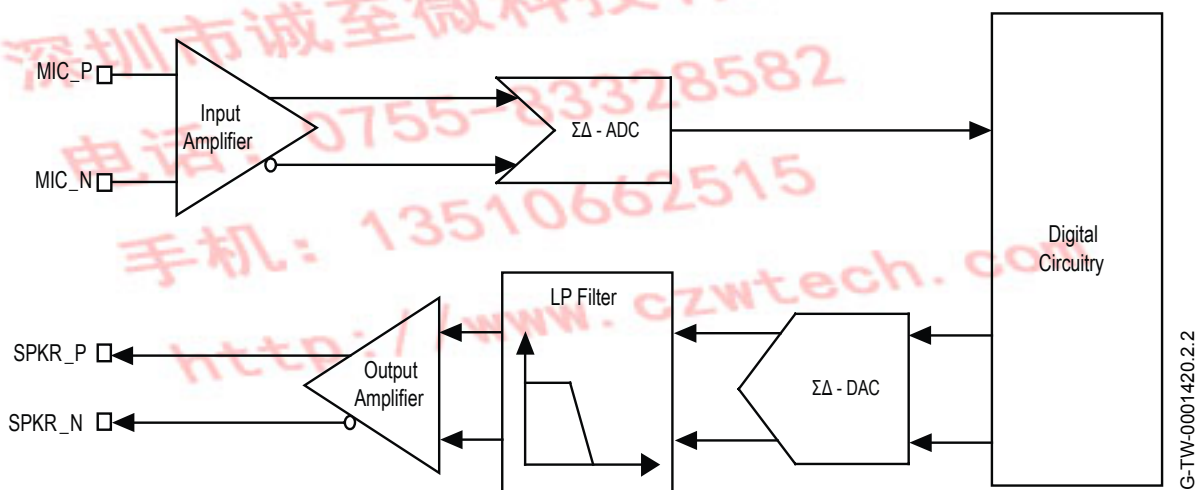

Figure 9.1: Mono Codec Audio Input and Output Stages
- A second-order Sigma-Delta converter, as Figure 9.1 shows.